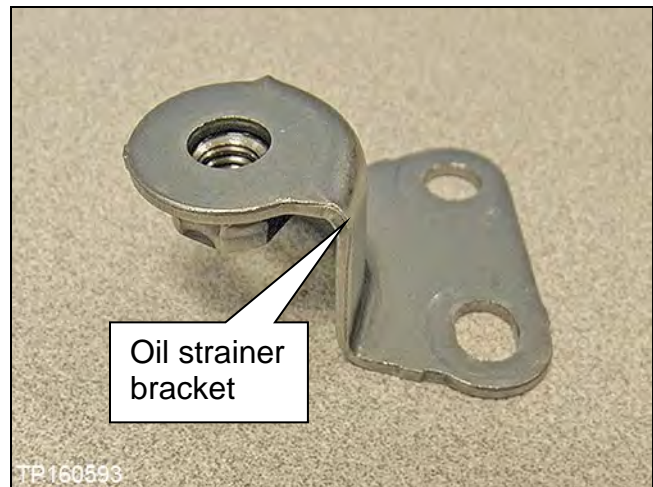

Figure 1J
**NOTE:** If an oil strainer bracket was removed, discard it. An oil strainer bracket (Figure 1J) will not be used with the new oil strainer.